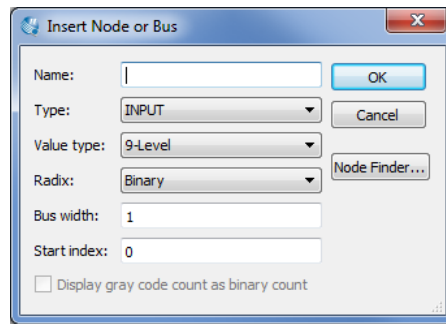
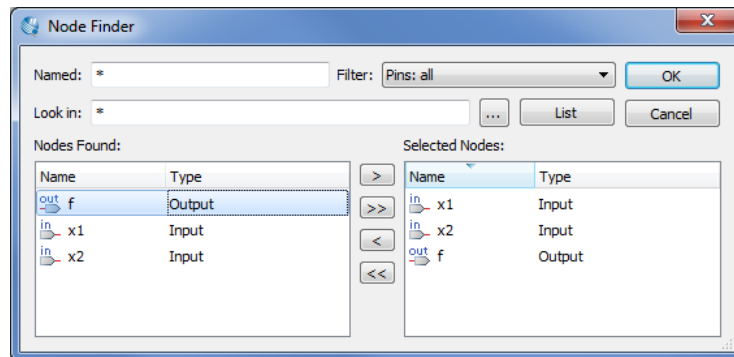

Figure 35. The Insert Node or Bus dialogue.
Figure 36. Selecting nodes to insert into the Waveform Editor.
- Next, we want to include the input and output nodes of the circuit to be simulated. Click **Edit > Insert > Insert Node or Bus** to open the window in Figure 35. It is possible to type the name of a signal (pin) into the Name box, or use the Node Finder to search your project for the signals. Click on the button labeled **Node Finder** to open the window in Figure 36. The Node Finder utility has a filter used to indicate what type of nodes are to be found. Since we are interested in input and output pins, set the filter to **Pins: all**. Click the **List** button to find the input and output nodes as indicated on the left side of the figure.
Click on the *x1* signal in the Nodes Found box in Figure 36, and then click the > sign to add it to the Selected Nodes box on the right side of the figure. Do the same for *x2* and *f*. Click OK to close the Node Finder window, and then click OK in the window of Figure 35. This leaves a fully displayed Waveform Editor window, as shown in Figure 37. If you did not select the nodes in the same order as displayed in Figure 37, it is possible to rearrange them. To move a waveform up or down in the Waveform Editor window, click within the node's row (i.e. on its name, icon, or value) and drag it up or down in the Waveform Editor.